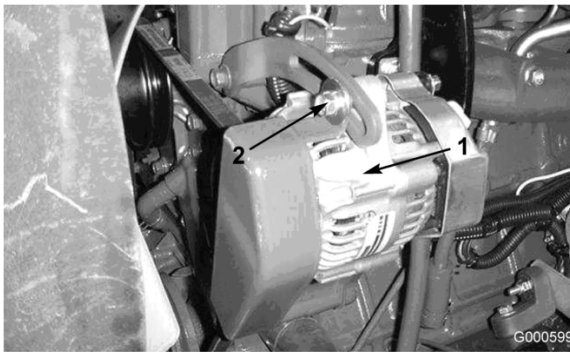

Figure 52
Check the condition and tension of the belts (Figure 52) after every 100 operating hours.
2. If the deflection is not 3/8 in. (10 mm), loosen the alternator mounting bolts (Figure 52). Increase or decrease the alternator belt tension and tighten the bolts. Check the deflection of the belt again to ensure that the tension is correct.